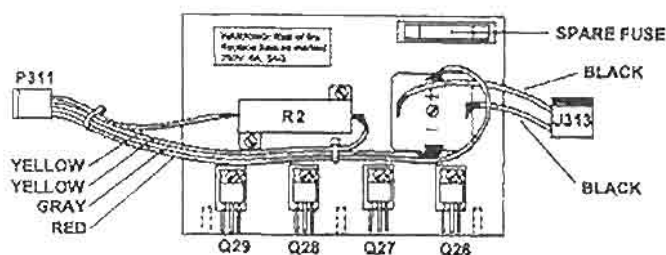
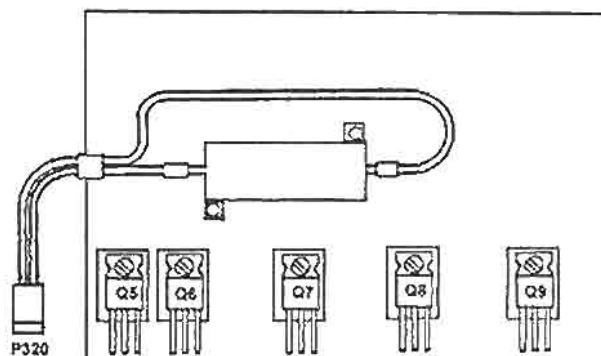

Figure 4-24. Heat sink assembly, power supply.
Figure 4-27. Heat sink assembly, electronic clamp.
### 4-17. Heat sink assemblies (fig 4-24 through fig 4-27).
- (11) Lift out the PSRF PCB using extreme caution and place it upside down.
- (12) Disconnect the electronic plug(s), identified in figures 4-24 through 4-27, from the specific heat sink(s) you need to remove.
- (13) Remove the three slotted screws fastening the specific heat sink assembly you need to remove. Set them aside.
- (14) Gently pull the heat sink assembly from the PSRF PCB.